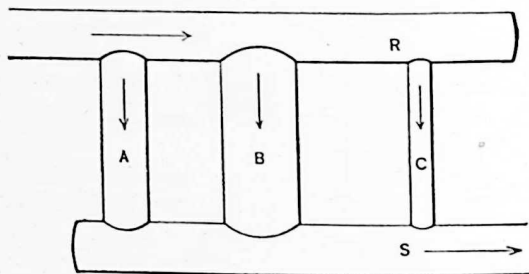

FIG. 40. The pipes *A*, *B* and *C* are in parallel.
**19. Parallel Circuit. Voltage.** Suppose, as in Fig. 40, we should join two main pipes  $R$  and  $S$  by means of three parallel pipes  $A$ ,  $B$  and  $C$ . All the parallel pipes lie between the same two levels, that is, the levels of  $R$  and  $S$ . Thus there is the same difference of level across them. We have seen that it is this difference of level that causes the
**20. Parallel Circuit. Current.** Turning again to Fig. 40, it is seen that, since the pipes *A*, *B* and *C* are not joined in series, they are independent of one another, and do not have to carry the same current. In fact, it is very evident that the largest pipe will carry the largest current and the smallest pipe the smallest current. Water and electricity do not take the path of least resistance. They take all paths. Where the path is of small resistance, a heavy current flows. Where there is a path of large resistance, a small current flows. But the water or the electricity is sure to make use of both the low resistance and the high resistance paths and force as much current as possible through both. The total current that flows through is merely the sum of the currents in the separate paths.
Or, referring to Fig. 40, it can be seen that the more pipes there are connected in parallel between the main pipes *R* and *S*, the easier it is for the water to get from one main pipe to the other. Hence the smaller the resistance between the main pipes.